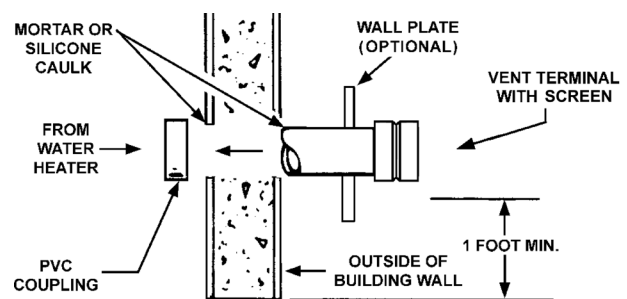
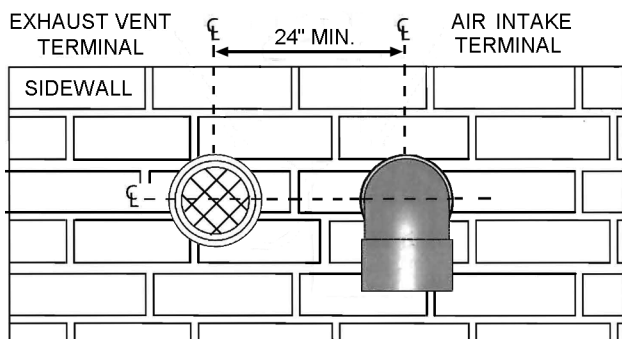
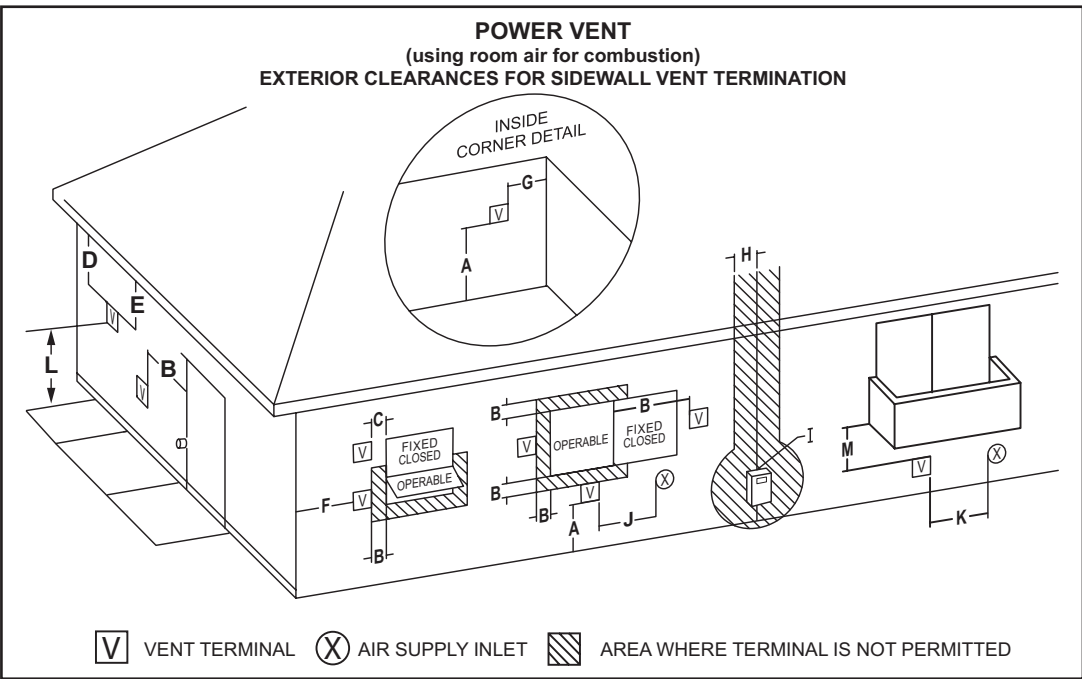
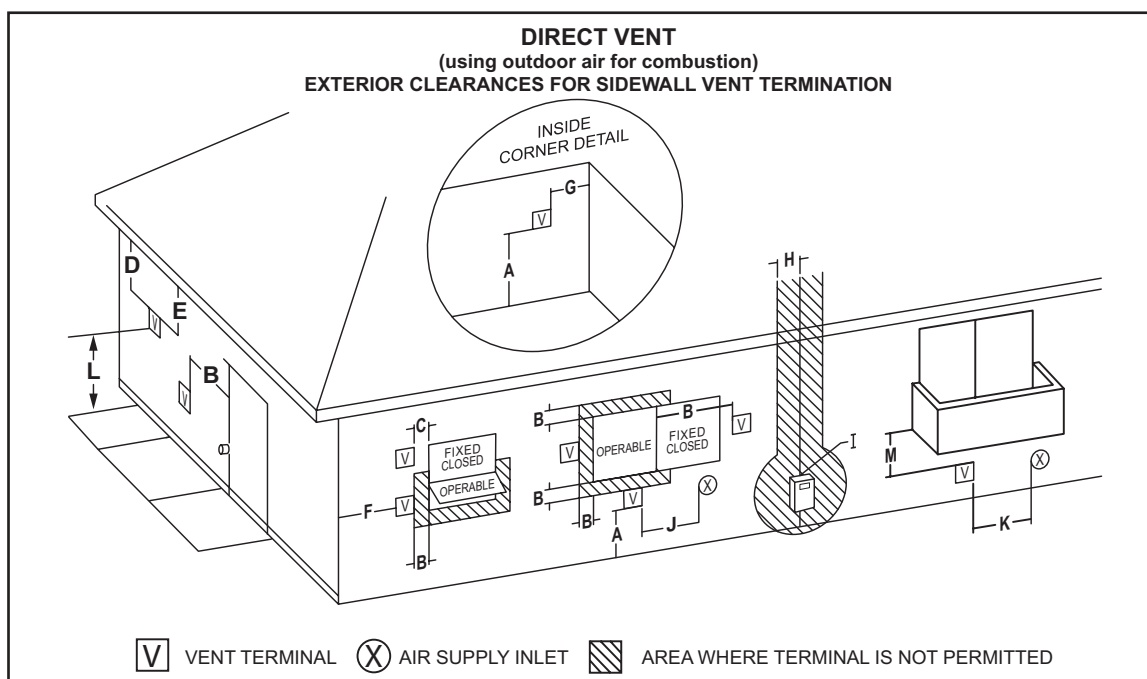

Figure 12: VENT TERMINATION
Figure: 13A
Figure: 15
Figure: 16
2. Through-the-Wall Termination - horizontal vent termination directly through an outside wall, see "Figure 12: VENT TERMINATION" on Page 27.
Direct venting into dead spaces such as alleys, atriums, and inside corners can cause recirculation of flue gases. Recirculation of flue gases will cause sooting, and icing of the combustion air intake during severe cold weather. To prevent the recirculation of flue gases, maintain as much distance as possible between the combustion air intake and the exhaust vent terminal refer to "Figure: 15" and "Figure: 16" on Page 29 & Page 30 respectively.
The first step is to determine where the vent pipe will terminate. See Figures 12, "Figure: 13A", and "Figure: 14". The vent may terminate through a sidewall as shown in Figure 12 and "Figure: 14" or through the roof as shown in "Figure: 15" and "Figure: 16".
The vent system must terminate so that proper clearances are maintained as cited in local codes or the current edition of the National Fuel Gas Code, (ANSI Z223.1, 12.9.1 through 12.9.4) or the Natural Gas and Propane Installation Code (CAN/CSA-B149.1). See "Figure: 15" and "Figure: 16".
Instructions on proper installation through a sidewall are provided in Figures 12, "Figure: 13A", and "Figure: 14".
Cut a length of pipe about 3.5 inches (8.9 cm) longer than the wall thickness at the opening. Glue the vent terminal to this section of pipe. Slide the wall plate over the pipe to stop against the vent terminal. Place a bead of caulking (not supplied) around the gap between the pipe and cover plate. Apply enough to fill some of the gap between the pipe and wall. Place some of the caulking on the back of the plate to hold it against the wall after installation. If the vent pipe is installed up to the wall, with a coupling on the end against the wall opening, the pipe with the vent terminal can be prepared for gluing before inserting through the wall. Slide the pipe through the wall and insert into the coupling on the other side of the wall, making sure that the vent terminal ends up pointed in the correct position, see Figure 12.
6. If the air intake pipe is installed up to the wall, with a coupling on the end against the wall opening, the pipe with the air intake terminal can be prepared for gluing before inserting through the wall. Slide the pipe through the wall and insert into coupling on the other side of the wall, making sure that the air intake terminal ends up pointed in the correct position (Figure 13A and Figure 14).